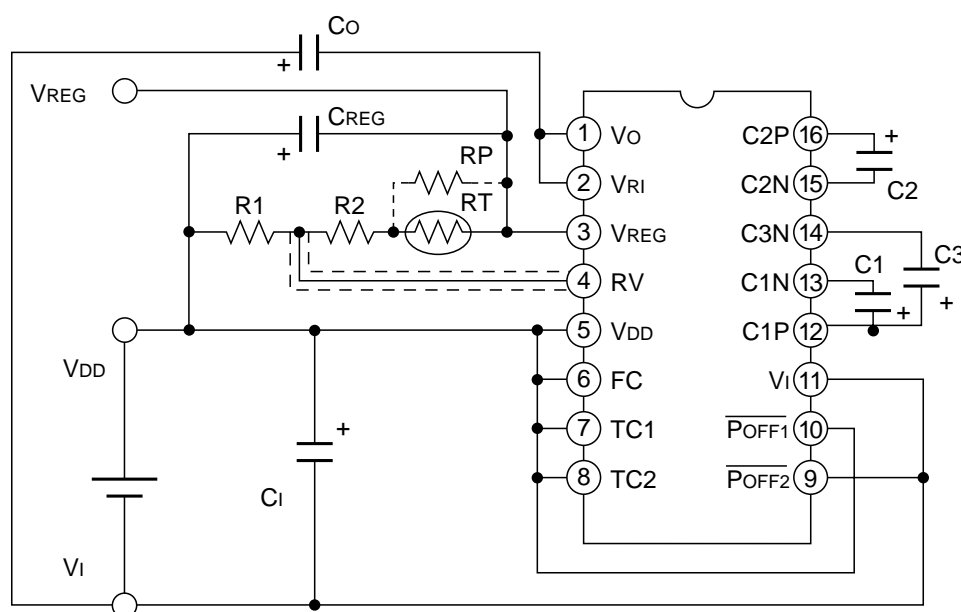

Figure 2.16 Wiring example when changing the regulator temperature coefficient
voltage. To set another temperature coefficient, use a thermistor resistor or others as shown in Figure 2.16.
◇ Setup conditions of Figure 2.16
- The thermistor resistor (RT) has the non-linear temperature characteristics. To correct them to the linear characteristics, insert the RP as shown Figure 2.16.